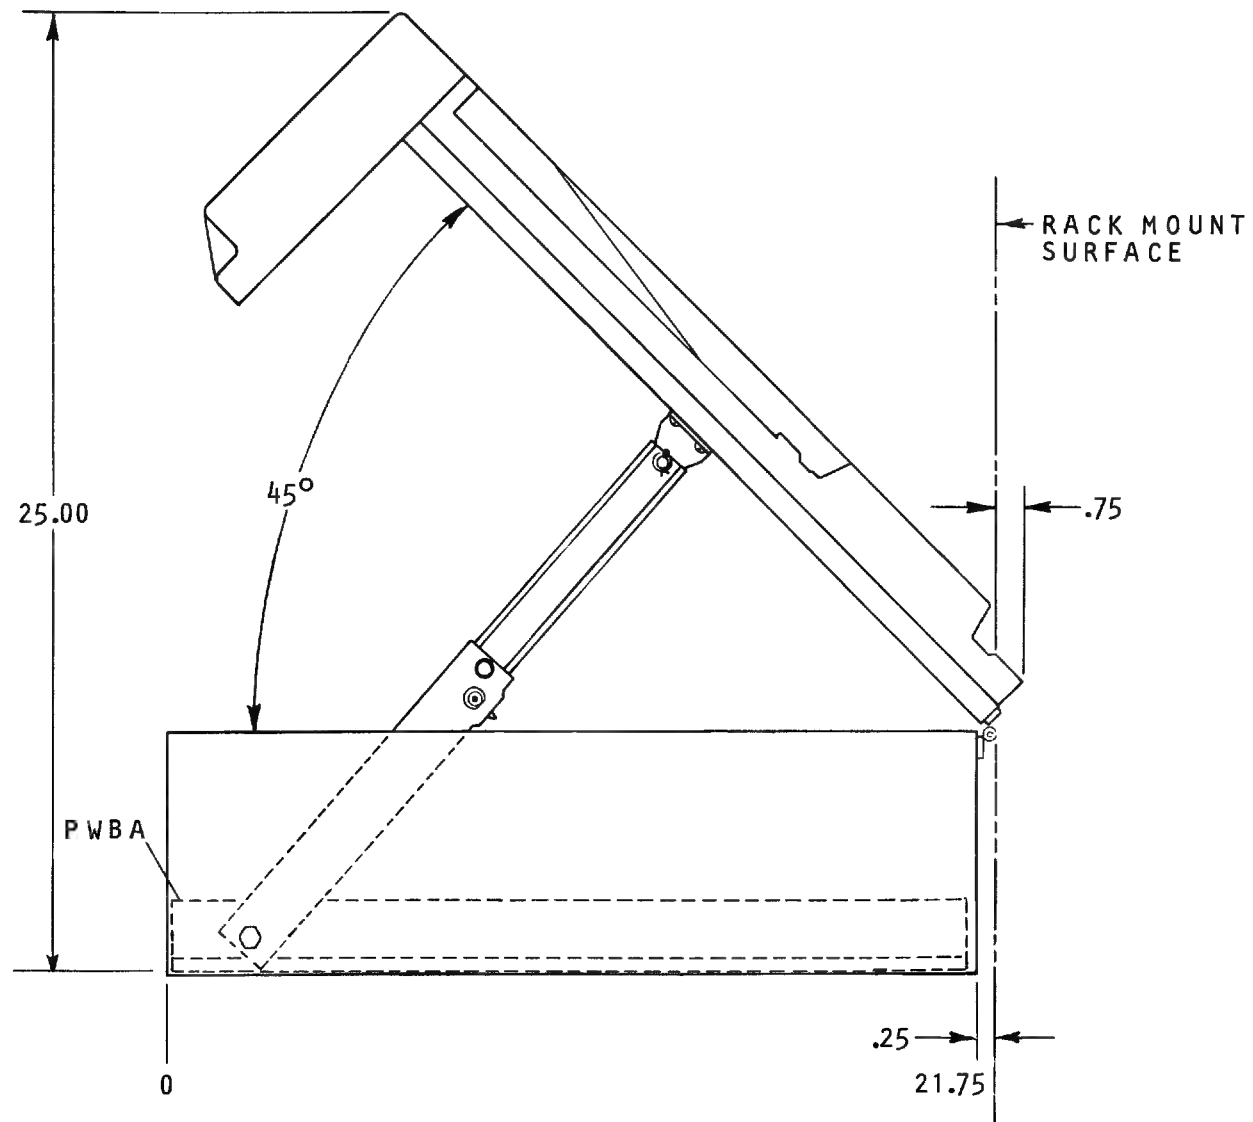

Figure 4-2. Service Access Position
**4-3. Service Access (See Figure 4-2).** To gain access to the main PWB and other internal components, proceed as follows: